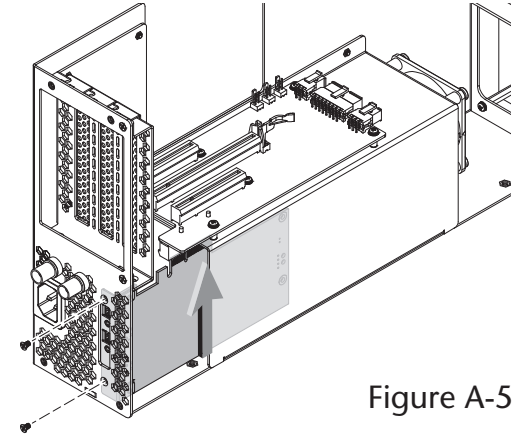

Figure A-5
7. Line up the card's connector with the slot, and then gently but firmly press the card straight into the slot; **do not rock the card or force the card into the slot**. If you encounter excessive resistance, check the card's connector and the slot for damage, and then try inserting the card again (**Figure A-5**).
8. Using the two screws you removed previously, secure the Thunderbolt interface card to the module; **do not overtighten the screws** (**Figure A-5**).